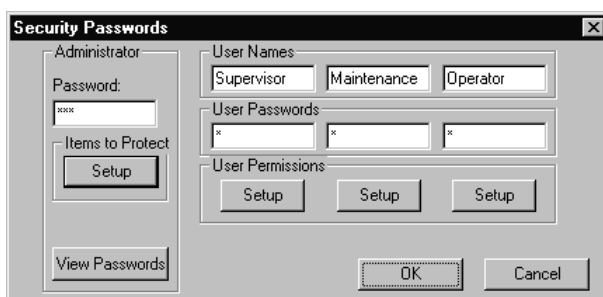

Figure 4.3 – Security Passwords Dialog
3. On the main Cscape screen, select the **Tools** menu and its **Security** sub-menu, and then click **Change Passwords**, to open the **Security Passwords** dialog, as shown in Figure 4.3.
8. The Administrator password is always authorized for all protected features. If desired, one or more of the user passwords can also be authorized for CsCAN over Ethernet communication. To do this, refer to Figure 4.3 and click one of the **User Permissions Setup** buttons to open that user's **Security Settings** dialog, which will be similar to Figure 4.4. Then check the **CsCAN TCP (Ethernet)** checkbox and click **OK**.